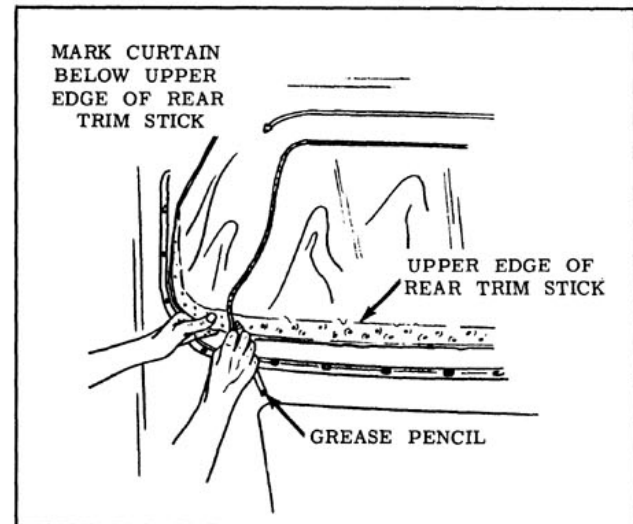

Fig. 16-129 Locating Edge of Top Material
10. To establish relationship of right and left inner vertical edge, of old top material, to back curtain assembly at rear trim stick location, mark back curtain vinyl at both locations with a grease pencil. (Fig. 16-129) Reference marks should be transferred to new back curtain when Step 6 of installation procedure is performed.